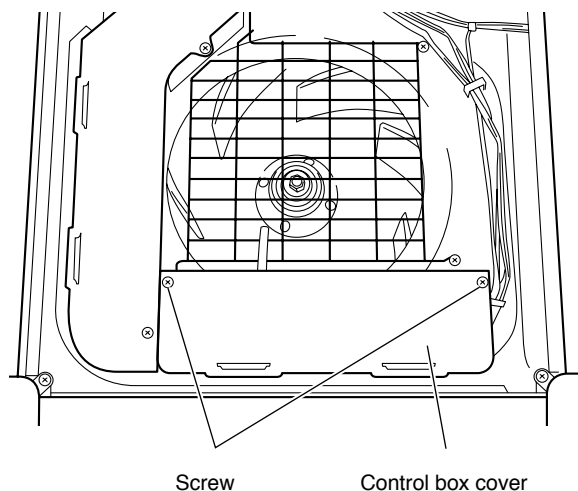

Fig.4
- (1) Remove the 2 screws and remove the control box cover. (Fig. 4)